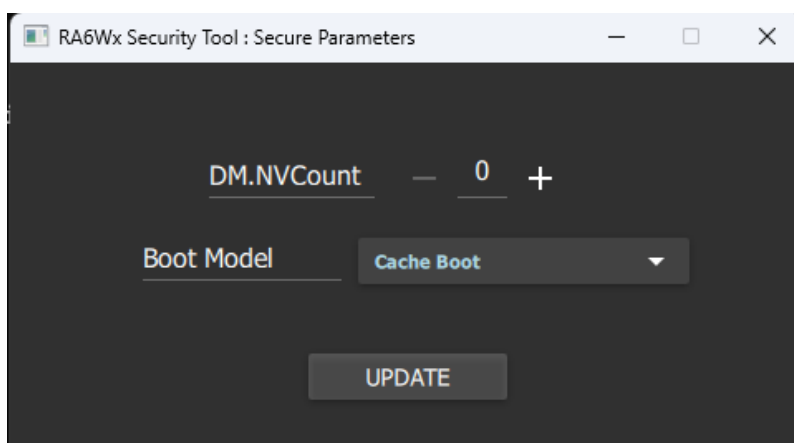
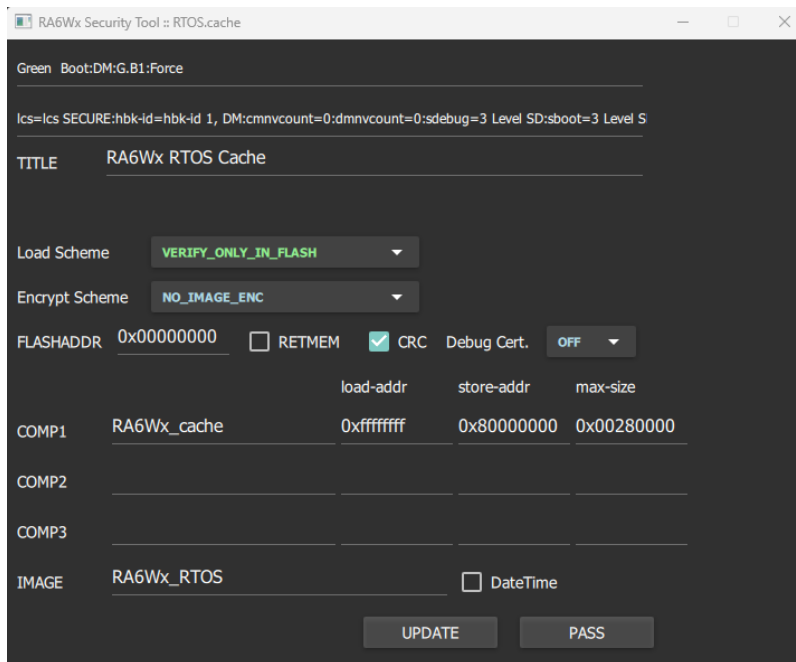

Figure 32. Secure key renewal DM NV count update
Figure 33. Key renewal DM config changes
4. Repeat this procedure for the DM state, which appears sequentially. See Figure 33 related to the DM process. If necessary, you can update DM anti-rollback counter (Figure 32).
- In the **RTOS.cache** window, from the **Encrypt Scheme** drop-down menu, select the **WKEY_CODE_ENC** option for DM image (Figure 33).